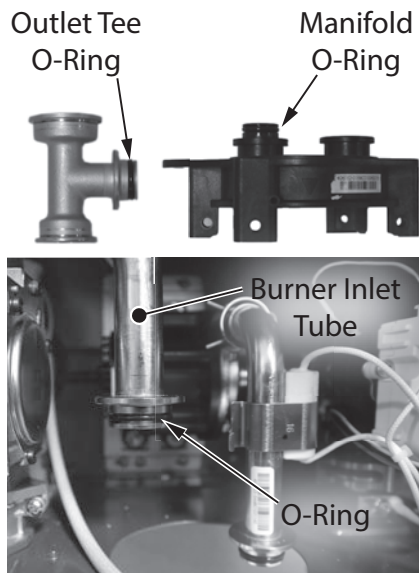

Figure 250 - Replace O-rings
**19** If replacing outlet tee, discard old tee and locate the new outlet tee provided in the kit. Install one (1) 15.5 x 2.5, NBR O-ring to outlet tee. Replace one (1) 15.5 x 2.5, EPDM O-ring on the cartridge manifold. Replace one (1) 21.8 x 2.4 O-ring on the burner inlet tube. See Figure 250 on the following page for reference.